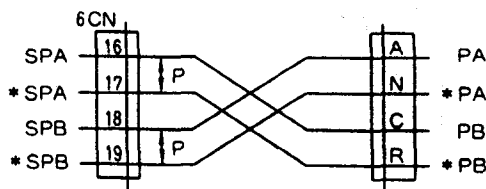

Fig. 5.10 Signal Lead Change
- (1) Limit the length of signal cable between orientation card and encoder to less than 20 meters.
- (2) We have available the signal cable described in the specification shown in Table 5.3. You can purchase this optional item in the standard lengths according to your requirement.
- (3) During installation, keep the power cable and signal cable apart from each other to prevent interferences from electrical noise.
- (4) During normal rotation of spindle, if the encoder rotates clockwise as viewed from the spindle, interchange A- and B-phases as shown in Fig. 5.10.